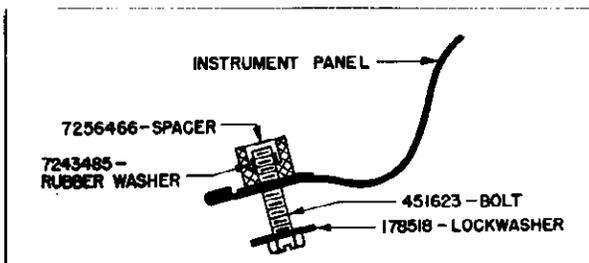

Figure 63
8. Assemble the two lower mounting spacers with the bolts, lockwashers and rubber washers, to the proper holes in lower flange of instrument panel, with the bolts just short of sticking through the spacers. (See Figure 63.)